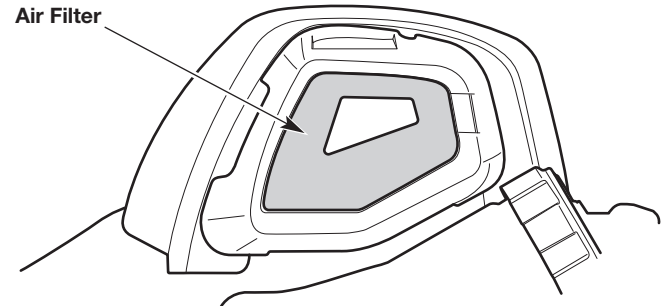

Fig. 38
2. Remove the air filter (Fig. 38).
6. Reinstall the air filter (Fig. 38).